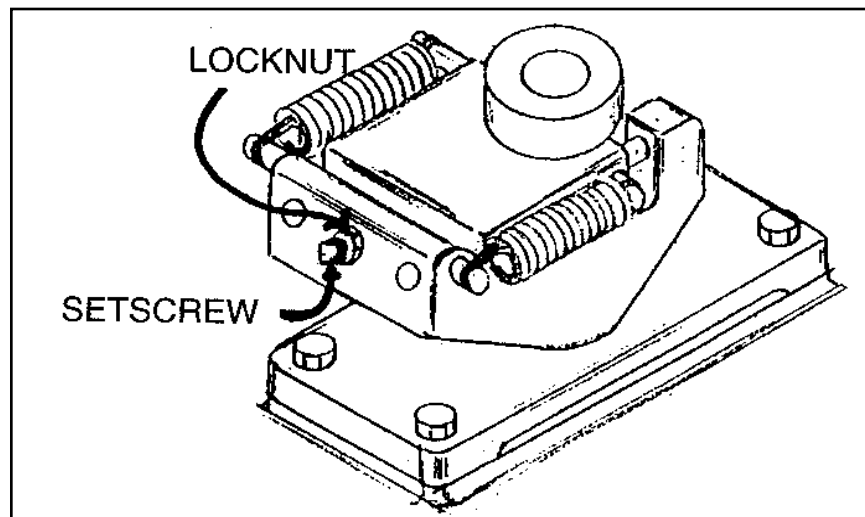

Figure 6
3. Drive Slide adjustment is to stop the crank plate in the center, when releasing the rounding lever, See Fig.6. The crank plate must be removed to make this adjustment. (To remove crankplate, see instructions on page 18, Item 7) Loosen lock nut and turn set screw counter clockwise, to allow drive slide to come back to center. Tighten lock nut. If drive slide is coming back beyond center, loosen lock nut, turn set screw clockwise, pushing drive slide to center, tighten lock nut.